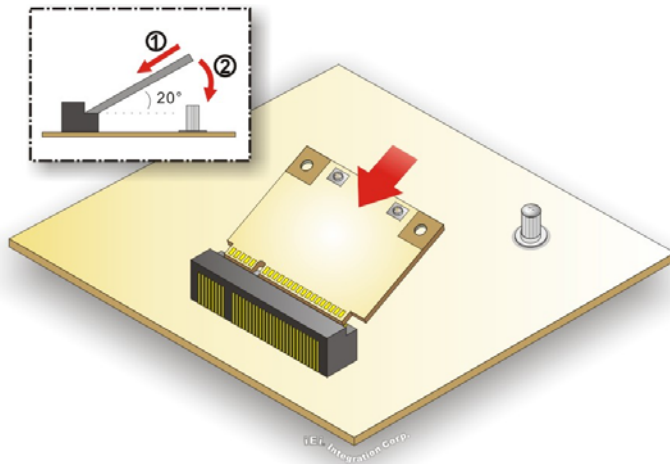

Figure 3-19: Inserting the WLAN Module
Step 5: Insert into the socket at an angle. Line up the notch on the WLAN module with the notch on the slot. Slide the WLAN module into the slot at an angle of about 20° (Figure 3-19).